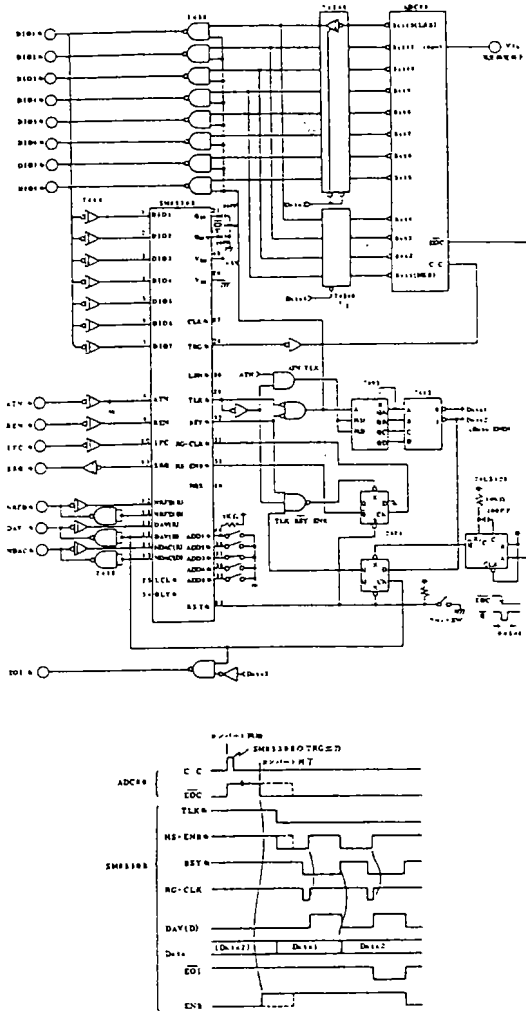
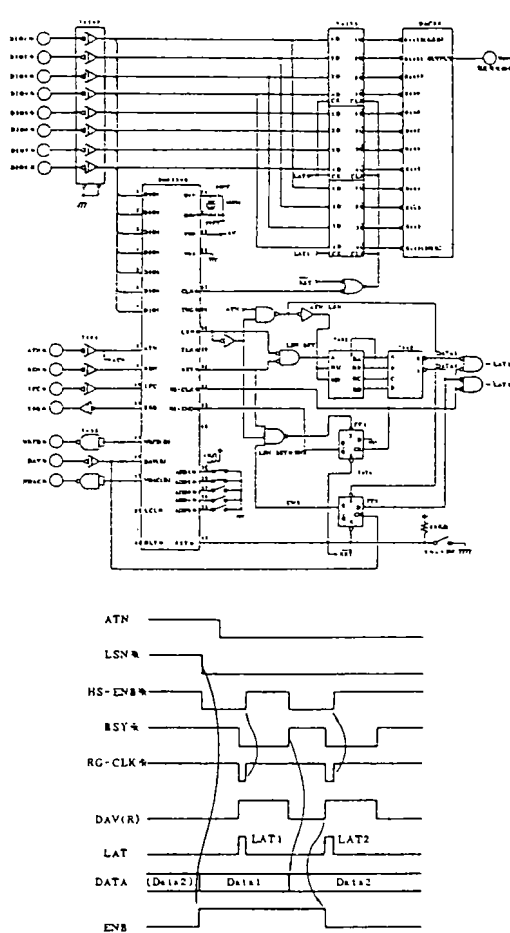

Figure 15 Talker application (AD converter control)
Figure 16 Listener application (DA converter control)
• Examples of talker and listener configurations made with the SM8530B are shown below. Figure 15 shows a talker for reading A/D converter data, and Figure 16 a listener for controlling a D/A converter.